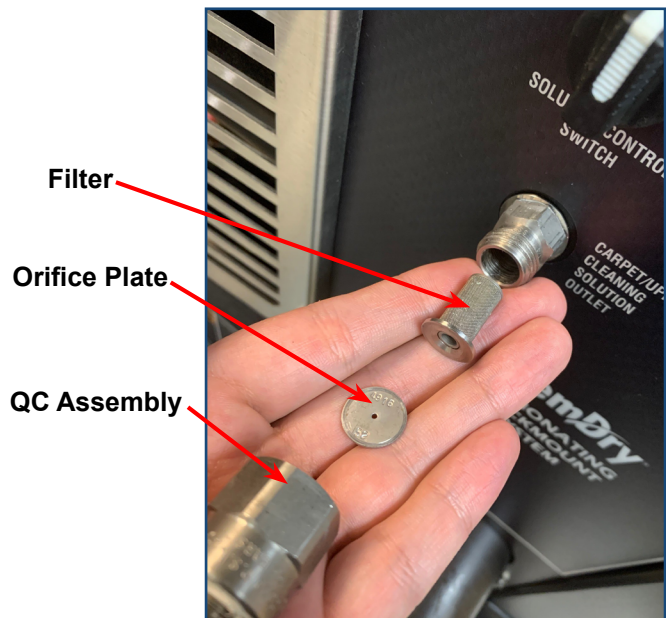

Figure 4-7. Remove Filter and Orifice
4. Remove the filter and orifice (see Figure 4-7).